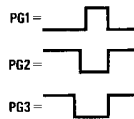

FIGURE 4. AC Test Circuit
**Note:** AC test waveforms for PG1, PG2, and PG3 in Figure 4.